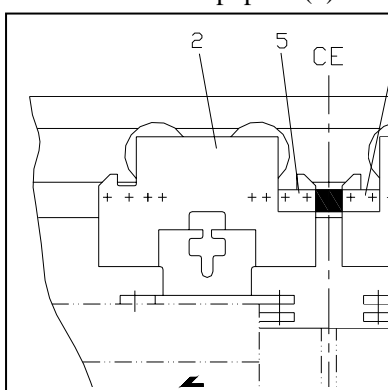
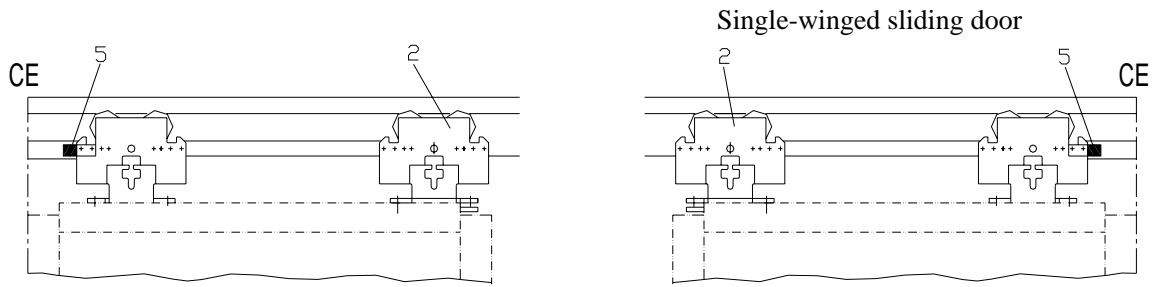

Figure 3.2
Figure 3.3
Please fix the stop piece(5) on the running carriage sets(2) by using the cheese-head screw M6X10 and washer. See Figure 3.2 & Figure 3.3.